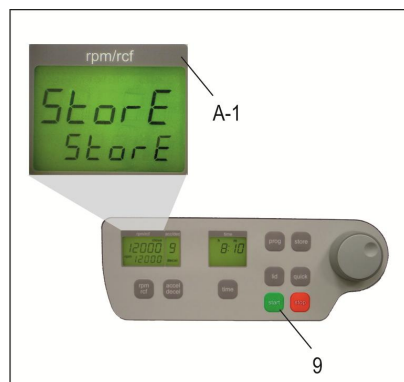

Figure 3
- All changed settings must be confirmed by the key „start“ (9). As an optical confirmation appears the word „store“ in the display „rpm/rcf“(A-1) - Only then the pre-selections are valid! (see figure 3)